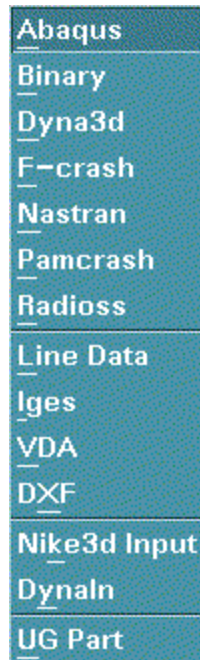

Figure 2.2.1 File Type
From the window, select the button to the right of FILE TYPE to display a menu and select a file type (see Figure 2.2.1). eta/DYNAFORM supports CAD types including IGES, VDA, UG and LIN.
2. A dialog window will display. Select the button to the right of FORMAT and choose the desired format. Please see the figure 2.2.1.